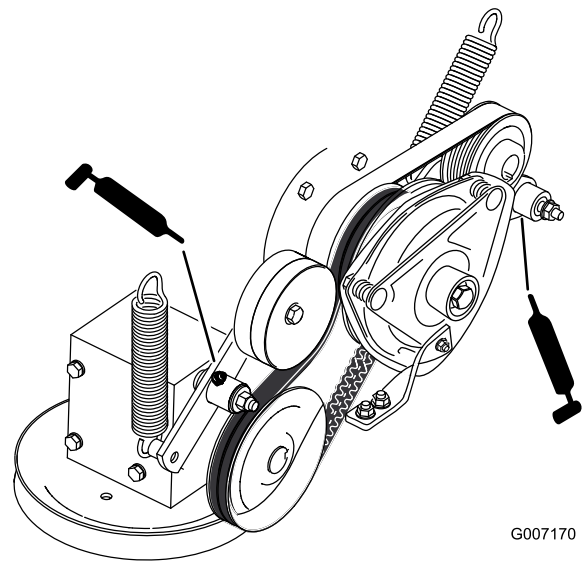

Figure 41
9. Grease the PTO drive belt idler arm (Figure 41).
10. Grease the pump belt idler arm (Figure 41).